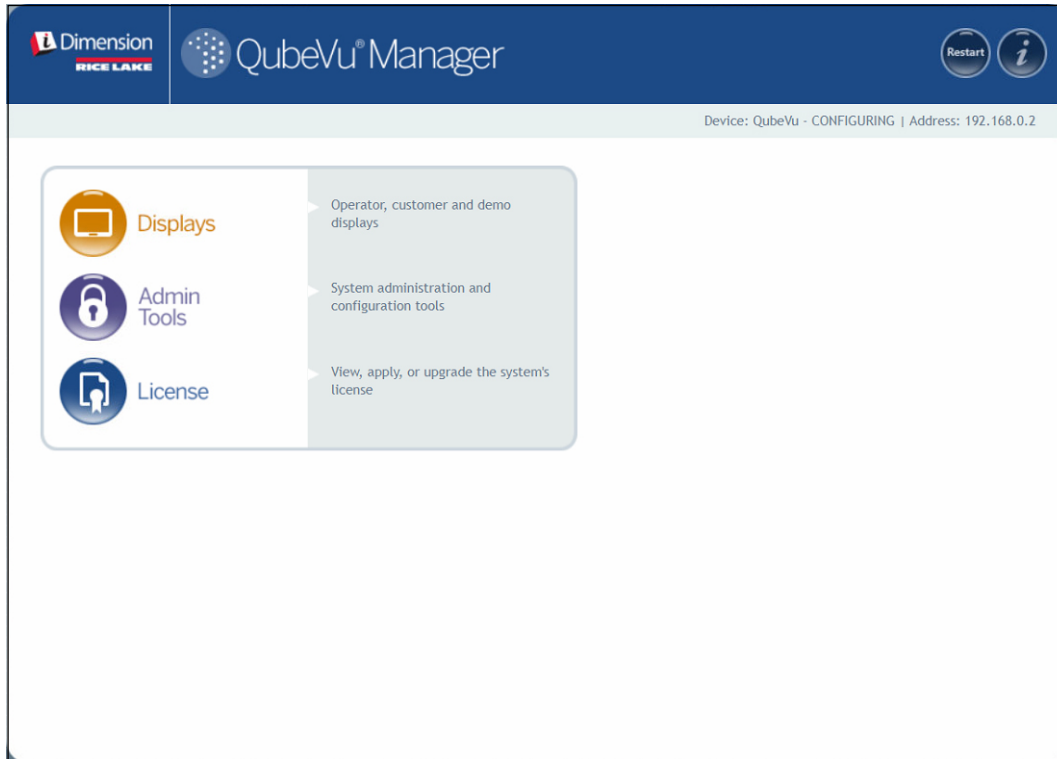

Figure 2-1. QubeVu Manager Home Page
- Select  **Displays** from the **QubeVu Manager** menu (Figure 2-1 on page 8) to enter the **Display Pages** menu